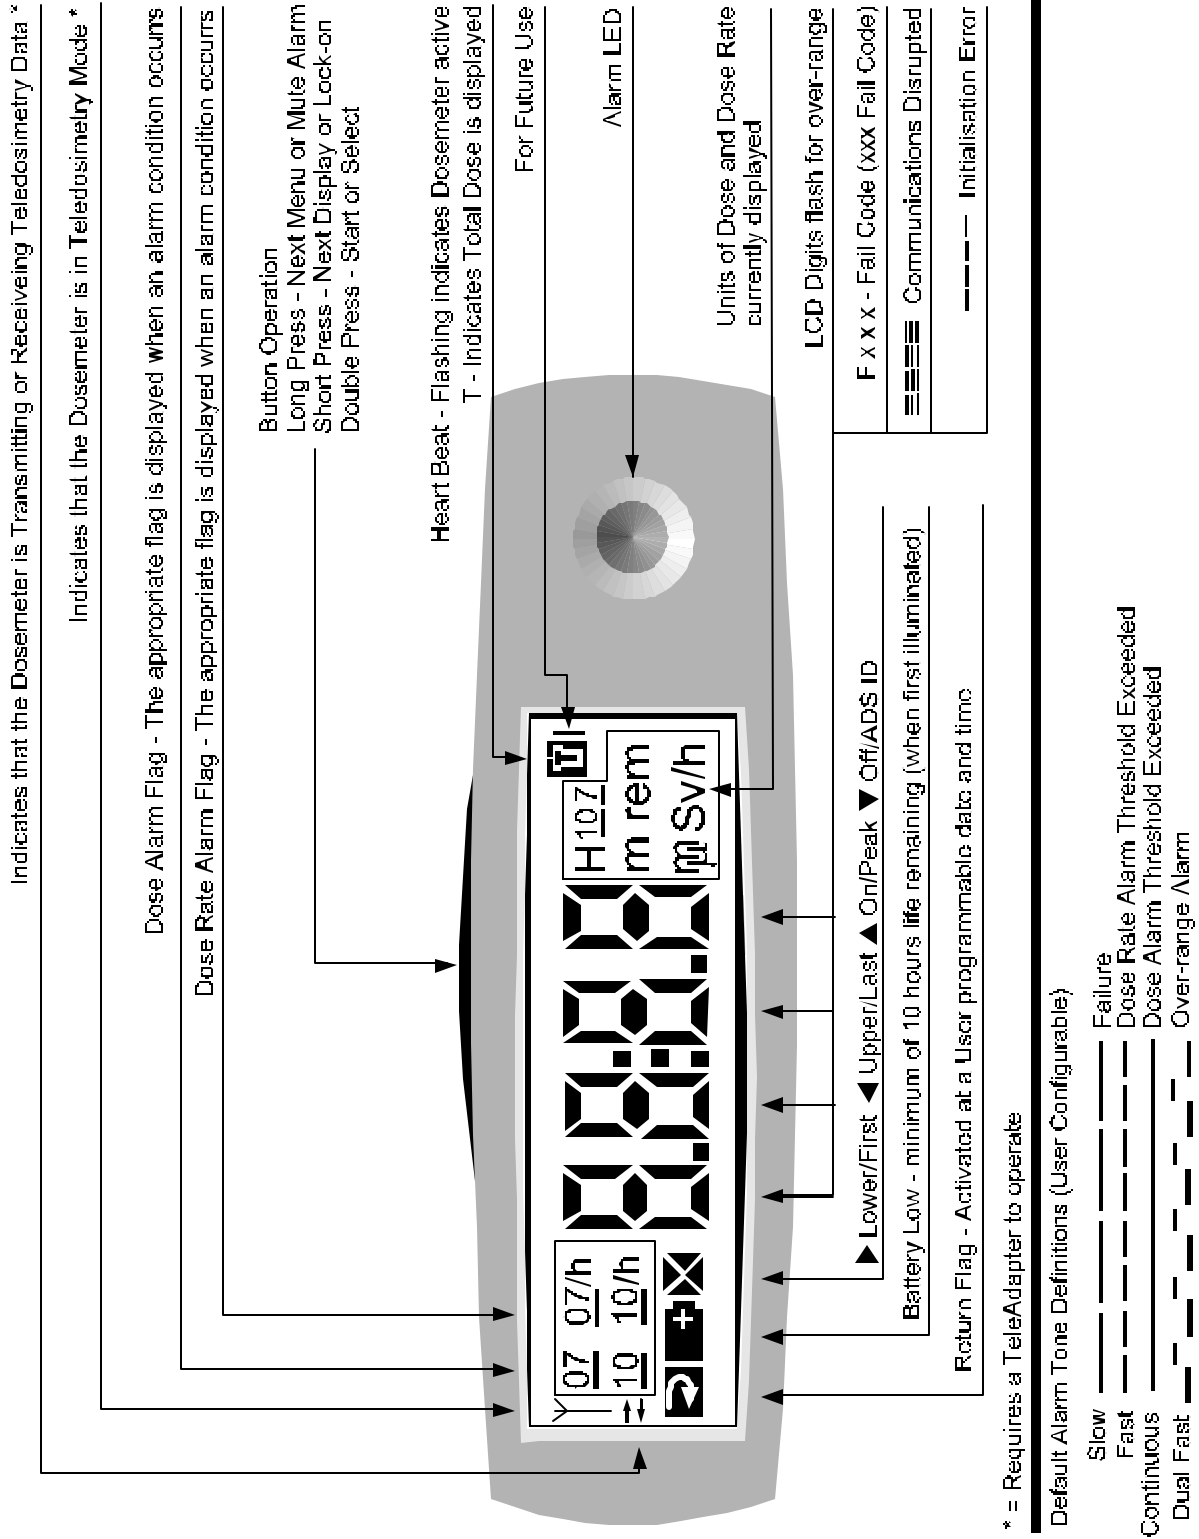

Figure 3.2 - LCD Display Segments
1. All segments of the display are activated for approximately 5 seconds. This allows the user to check that all segments are functional (see Figure 3.2).
A custom-designed LCD display on the top of the EPD provides a visual interface for viewing dose and other EPD data. The EPD display is illustrated in Figure 3.2, which shows all segments in the on state. All segments are activated in this way temporarily during the start-up sequence, and during user initiated *Confidence Test* (see Section 3.5.7). On completion of the start-up sequence or *Confidence Test* the default display will appear.
The EPD is able to initiate alarms for a number of different operational conditions. The nature of any alarm is shown on the LCD display by an alarm flag (see Figure 3.2) or, in the case of an over-range alarm, by a flashing LCD display. Faults are shown as a letter 'F' followed by 3 digits.